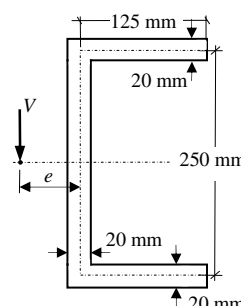

Figure 4
6. Locate the shear centre for the channel section shown in Fig. 4. If the section is subjected to a shear force  $V = 250 \text{ kN}$  acting through the shear centre as shown, draw the horizontal shear stress distribution. Indicate salient values. [4]